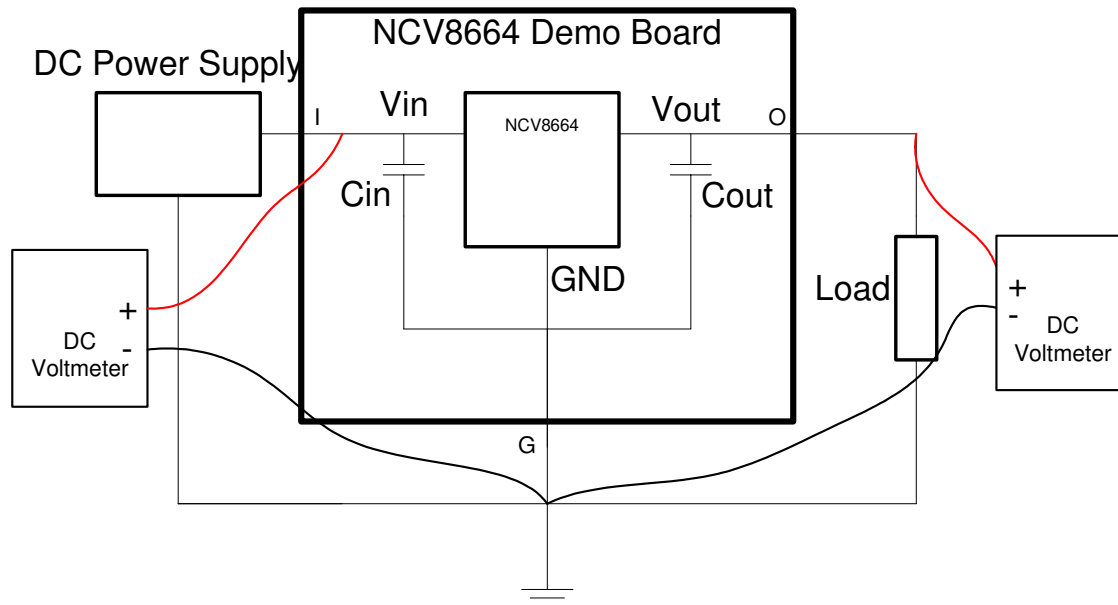

Figure 4. Quiescent Current Verification Setup
1. Connect circuit as shown in Figure 4.